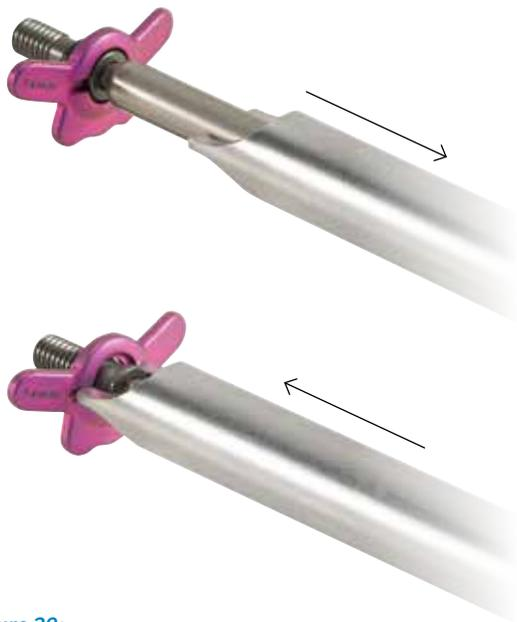

Figure 29:
- Load the cover plate onto the cover plate driver assembled on the ratcheting torque handle by pulling back on the sleeve to engage the hex driver into the set screw. Release the sleeve and align the tabs into the grooves on the cover plate (Figure 29).